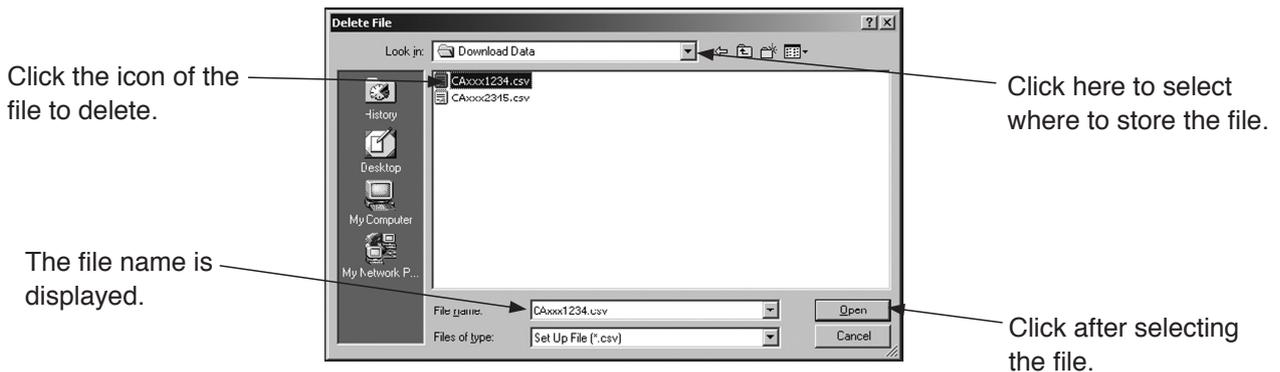

Fig.162
- ① Click the "File (F)" menu, and then select and click "Delete File (X)" from the "Database (F)" drop-down list.
- ② The common dialog box (Fig. 162) will be displayed. Select the disk and folder in which the file to be deleted is stored from the drop-down list.
- ③ Select the file to delete by clicking it. Verify the "File Name (N)" and click the "Open (O)" button. To exit without deleting the file, click the "Cancel" button.